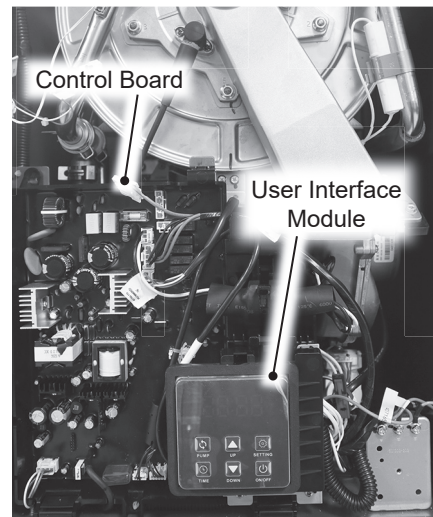

Figure 1 - User Interface Module
- 5 Locate the user interface module on the bottom front of the water heater. See Figure 1.